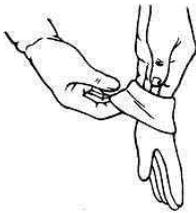
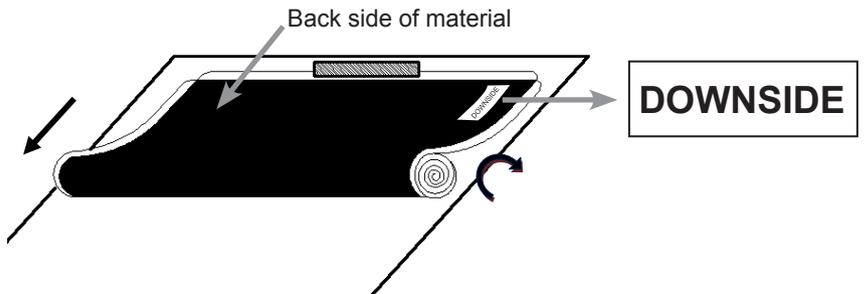

Figure 1
Figure 2
**Before handling the StarBright CLR® material(P), put on the supplied pair of white gloves(N) to avoid leaving fingerprint marks, dust or oil from your hands on the surface of the material(Figure 1). The StarBright CLR® material(P) is very delicate and should be handled with extreme care. Do not allow the material to fold or bend. Failure to follow instructions will result in permanent damage to the screen material, which is not covered by warranty.**
1. Remove the StarBright CLR® material(P) from the packaging tube and set it gently on a clean surface.
2. It is strongly recommended for two people to unroll the material to prevent the screen from bending or rolling unevenly. Each person should hold one end of the roll and slowly unroll the screen in a clockwise direction (Figure 2). Tip: Check the **DOWNSIDE** label on the material.